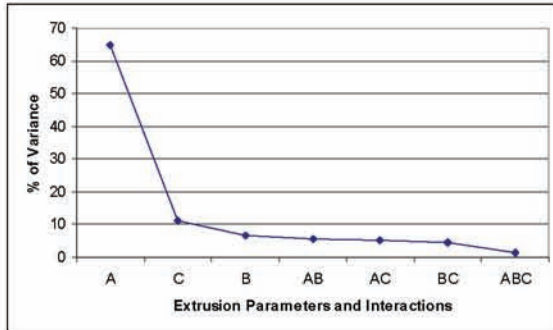
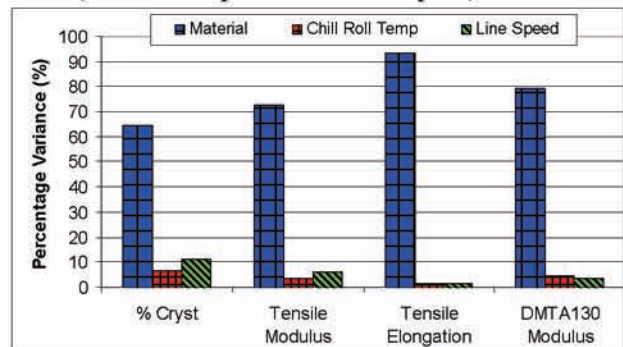

Figure 2. Scree plot for the effect of extrusion parameters and interactions on the % crystallinity of extruded sheet.
Figure 4. Comparison of Scree plot % of variation results for mechanical tests on extruded sheet.
A Scree plot comparing the percentage of variance in the % crystallinity results is shown in Figure 2, with a comparison of Scree plot results for the testing of extruded sheet shown in Figure 4. From Figure 2 it can be seen the major influence on the % crystallinity of the samples was material grade (A).
The tensile results in Table 3 showed as with the crystallinity results there was a large change in properties with material grade but no clear pattern of the same extrusion settings giving the highest or lowest tensile result values. The Scree plot for the tensile modulus is shown in a comparison of Scree plot results for the testing of extruded sheet shown in Figure 4. The main influence was A (material), with slight effects from C (line speed). However, the Scree plot results for elongation at break also shown in Figure 4 showed the only significant effect on it was A (material).
DMTA results show a higher storage modulus for M1 and M3, which along with a higher tensile modulus during tensile testing implies greater potential self-supporting properties (sag resistance) of the sheet in the heating step prior to forming compared to M2. This in turn may help to promote homogeneous stretching and improve wall thickness distribution in thermoforming [3]. The Scree plot results for the storage modulus at 130 °C, are shown in Figure 4 a comparison of Scree plot results for the testing of extruded sheet, the main effect is shown from A (material), but there is a significant effect from B (chill roll temperature).
Figure 4 shows a summary of the effects on the extruded sheet mechanical properties. It can be seen that A (material) has the greatest influence and for some properties is the only significant influence, with some other properties there is an influence from parameters B and C (chill roll temperature and line speed).